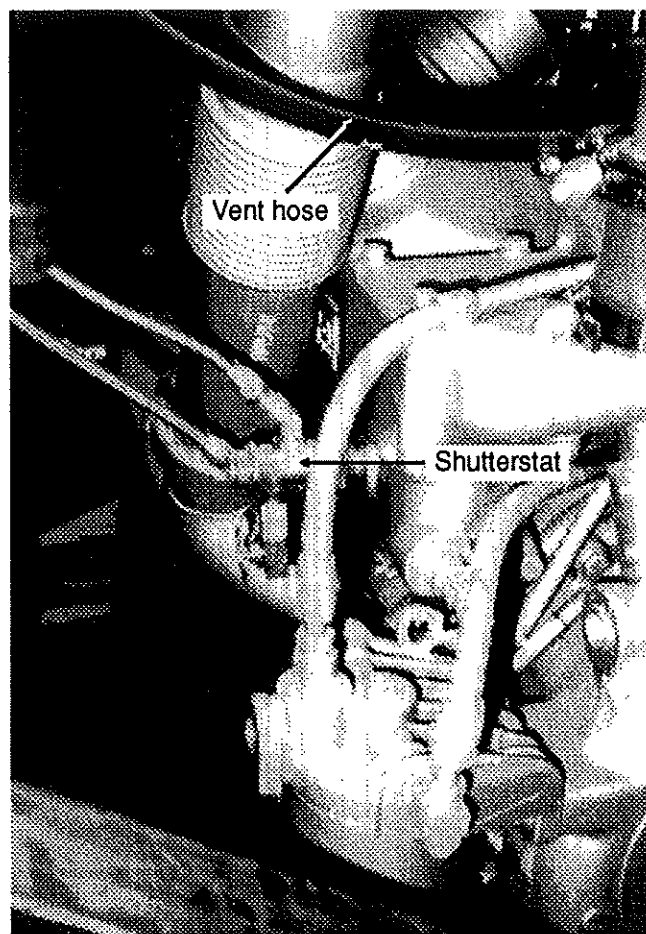

Fig. 12
9. Disconnect the steel-braided air hoses from shutterstat. The shutterstat is mounted in thermostat housing base, radiator side (see fig. 12).
10. Disconnect vent hose mounted close to the thermostat housing, radiator side (see fig. 12).